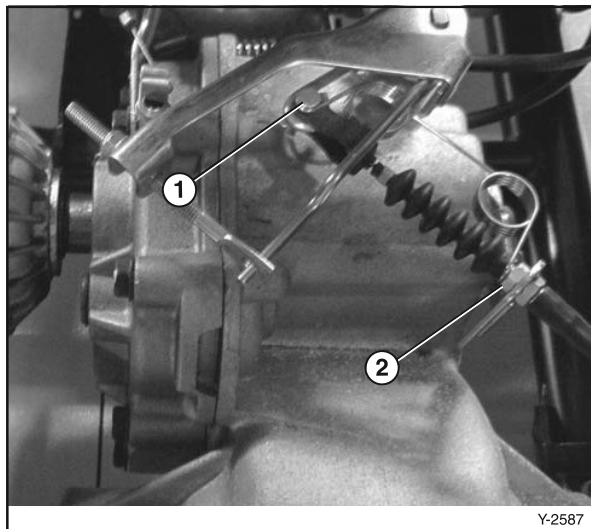

Figure 6-33
- 15. Remove the clevis pin (Figure 6-33, (1)) and disconnect the throttle cable from the speed limiter.
- 16. Loosen the jam nuts (Figure 6-33, (2)) and remove the throttle cable from the bracket.